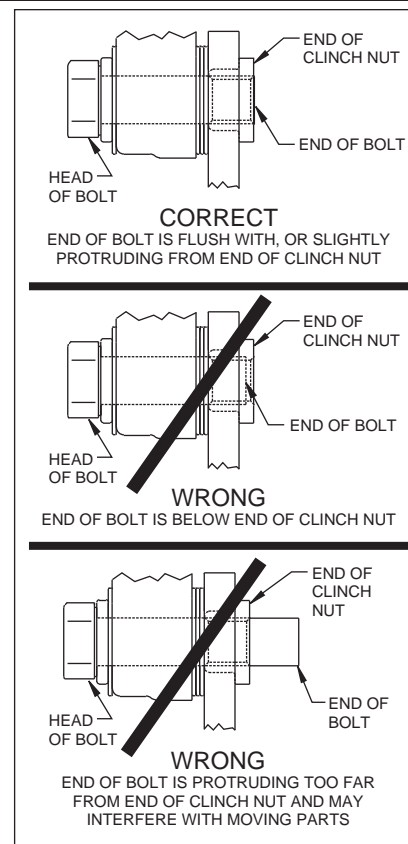

Figure 4.
- Install the dust cap (18) onto the hub (9). Friction created by the o-ring (17) on the dust cap (18) keeps it from unscrewing. The O.D. of the existing spindle washer may be larger than the I.D. of the dust cap (18) which may allow the washer to contact the dust cap (18).
- NOTE:** Please reference the caution statement at the beginning of the assembly instructions. Mount the caliper (19) onto the caliper mounting bracket (1) using two bolts (21) and two lock washers (22). Finger tighten. View the rotor (13) through the top of the caliper (19). The rotor (13) should be aligned in the center of the caliper (19). If not, loosen the two bolts (21) and adjust the caliper (19) by using 0.032 inch thick shim washers (22). The shim washers (22) should be placed between the caliper (19) and the caliper mounting bracket (1). Finger tighten and recheck alignment. Add as many shim washers (22) as necessary to achieve the correct alignment. **NOTE:** The end of the bolt must be flush with or slightly protruding from the head of the clinch nut. See Figure 4. Place spare shims (22) between washer and caliper mounting ear to achieve the proper mounting fastener configuration. Always use the same amount of shims on both the top and bottom caliper mounting bolts (21). Loosen the two bolts (21) and apply red *Loctite*® 271 to bolt threads (21) and torque to 40 ft-lb. Safety wire the two bolts (21).
- Install the disc brake pads (23) and secure using cotter pin (24). Repeat this procedure for the other wheel.